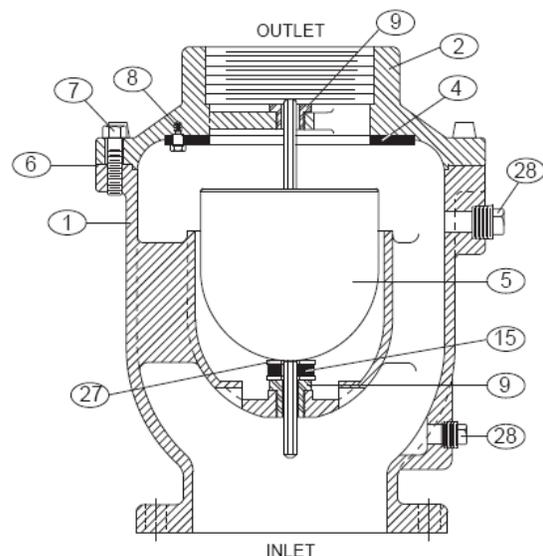

Figure 2. 4"-20" Air/Vacuum Valve
The standard Air/Vacuum Valve body and cover are cast iron. See specific Materials List submitted for the order if other than standard cast iron construction. The internal metal components are stainless steel. The float (5) is the only moving part assuring long life with minimal maintenance. The general details of construction are illustrated in Figure 2. The body (1) is flanged for connection to the pipeline. The resilient seat (4) is retained in the cast cover (2). An optional hood is available.